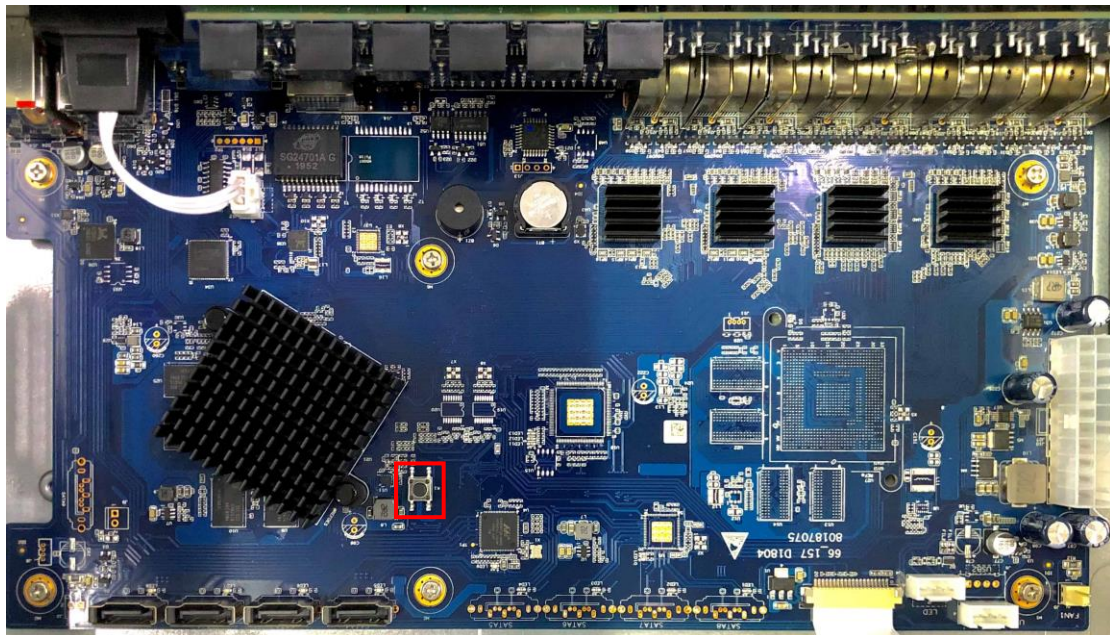

Figure 5-8
2. Find the reset button on the mainboard, and then press and hold the reset button for 5 seconds to 15 seconds. At the same time, turn on the power switch. See Figure 5-8 for the location of the reset button.